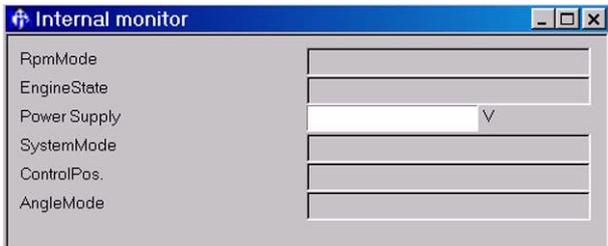

Fig 15.
- 1 Open the 'Internal monitor' window. Note the data shown in the 'System Mode window. The window displays 'real time' data that applies at the moment it is viewed as the machine is operating. → Fig 15. \(□ 20\)